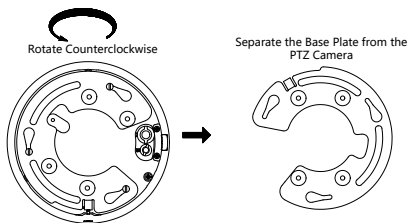

Figure 2-60 Separate the Base Plate from the PTZ camera
6. Fix the screws on the side with a screwdriver, as shown in Figure 2-60.